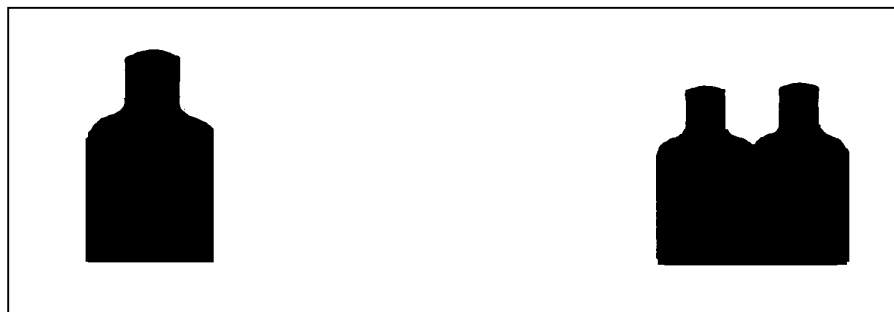

Figure 4-22. Single and double E-type silhouette targets.
b. **Targets** (Card board: NSN 6920-00-795-1806 and plastic: 6920-00-071-4780). The E-type silhouette targets are used—single and double are needed for qualification. The double represents an enemy automatic weapon, which for the gunner is a priority target (Figure 4-22). The targets are at various ranges that a gunner might engage. All targets should be plainly seen from the firing positions. Electrical targets are desirable.